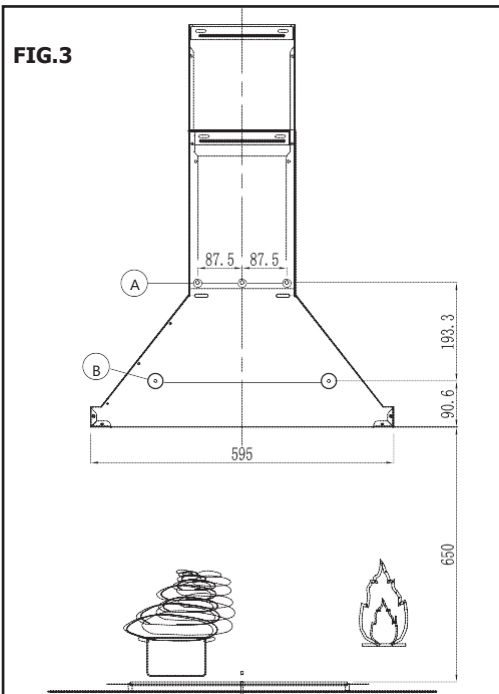

FIG.3
- If the hob is electric, gas, or induction, the minimum distance between the same and the lower part of the hood must be at least 65 cm. If a connection tube composed of two parts is used, the upper part must be placed outside the lower part (Fig.3).
Fix the appliance to the wall and align it in horizontal position to the wall units. When the appliance has been adjusted, definitely fix the hood using the screws B (Fig.3). For the various installations use screws and screw anchors suited to the type of wall (e.g. reinforced concrete, plasterboard, etc.).